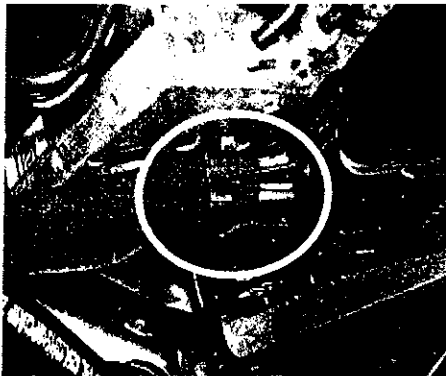

Figure 4: Position of the cable tie
5. Remove cable tie where SBC connector housing fits into wiring harness (Figure 4).